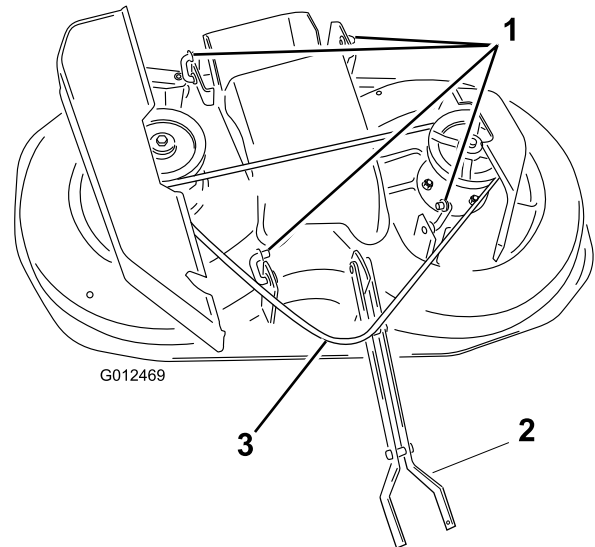

Figure 42
9. Remove the belt from the clutch pulley (Figure 42).
11. Remove the pins from the 4 rear links and remove the links from the tractor (Figure 42).
Note: You can leave the links attached to the mower as shown in (Figure 42).